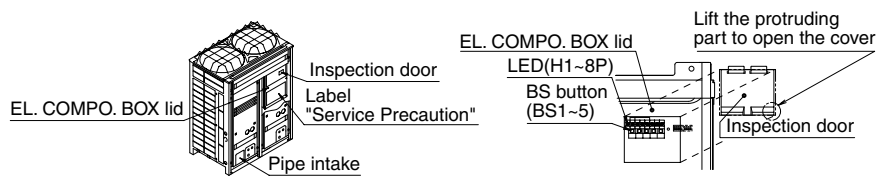
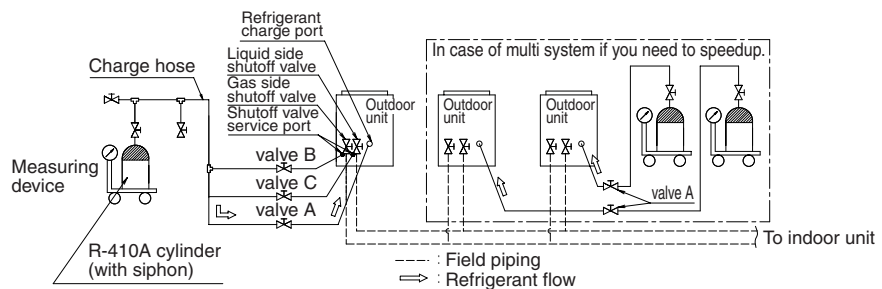

fig 3
fig 4
4. Perform the refrigerant charging operation following [Refrigerant charging operation procedure] as shown in page 185, and charge the remaining refrigerant of the “additional charging amount”. For performing the refrigerant charging operation the BS button on the PCB (A1P) of outdoor unit (In case of multi system master unit) are use. (See the figure 3) In addition, the refrigerant are charged from the refrigerant charge port via the valve A. (See the figure 4)
If you need to speed up in case of multi system, connect the refrigerant cylinders to each outdoor unit as shown in the figure 4.
(1) Open the liquid and gas side shutoff valves (The valve A~C must be closed. The valve A~C means the valves in the figure 4.)